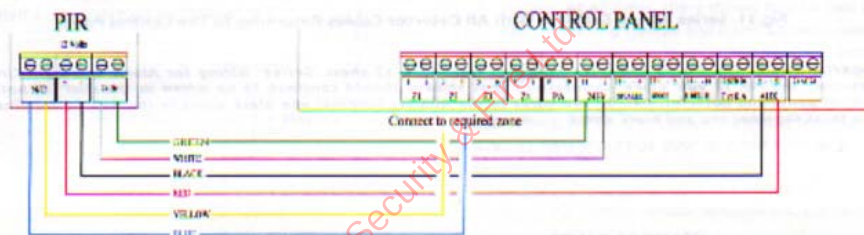
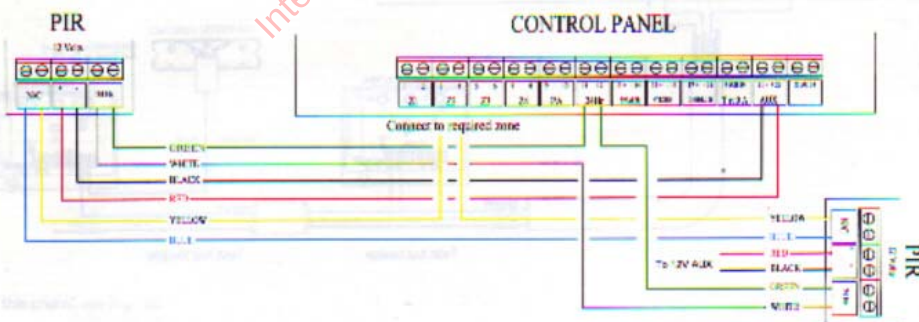

Fig.9. Schematic Wiring Diagram For Single Detector To Zone
Fig.10. Schematic Wiring Diagram For Two Detectors To Zone
1. Thread the cable through the entry on the base, then strip back 5mm of each core, twist the end, then fold over and wire into the appropriate terminals on the PIR as shown in Fig. 9.
Where only one PIR is to be connected to a zone, the wiring quite simple, i.e., the 12 volt connections (red wire and blue wire) from the PIR must be connected to the + and - Al connections on the PCB. The yellow and blue wires from 1 alarm detector contacts (N/C) are wired directly into the required zone, the green and white Anti-Tamper connection however must be wired in 'Series' with other 24 HR circuits (See Fig. 9 & 10).
1. All 12 volt power connections are wired in 'Parallel', i.e. all red wires together in the AUX (+) terminal on the PCB and all black wires together in the AUX (-) terminal on the PCB, (see Fig. 10).
2. The yellow and blue alarm contact wires are wired 'Series', e.g., take each pair of wires from the detector and join together like a 'Daisy Chain' link (colour colour). At all times, there should only be two separate ends remaining. Connect these to the zone connection on the PCB, removing the appropriate wire link (see Fig. 10 & 11).
5. Ensure that the battery is disconnected and no mains supply is connected to the control panel. Remove appropriate wire links, then connect the wires to terminals as shown in Fig. 9. and Fig. 10.